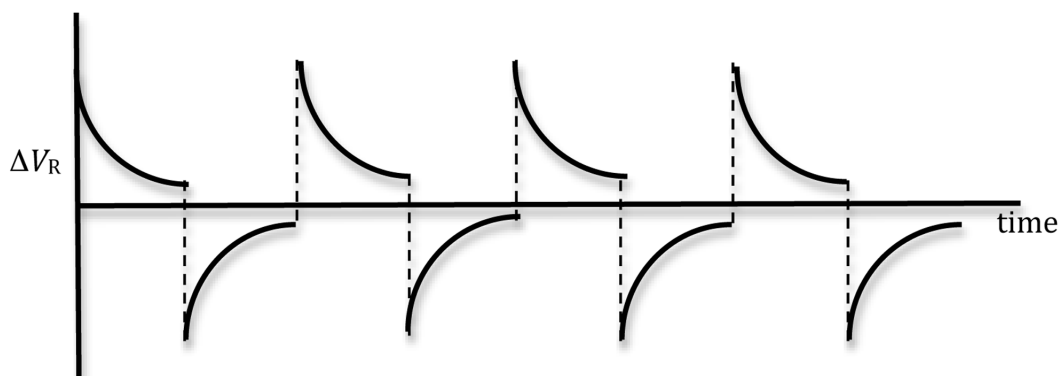

Figure 3: Voltage across the resistor as a function of time
Note that during the discharging process the current will flow through the resistor in the opposite direction. Hence I and ΔV in Eq. (9) and Eq. (11) are negative. This voltage as a function of time is shown in Fig. 3.